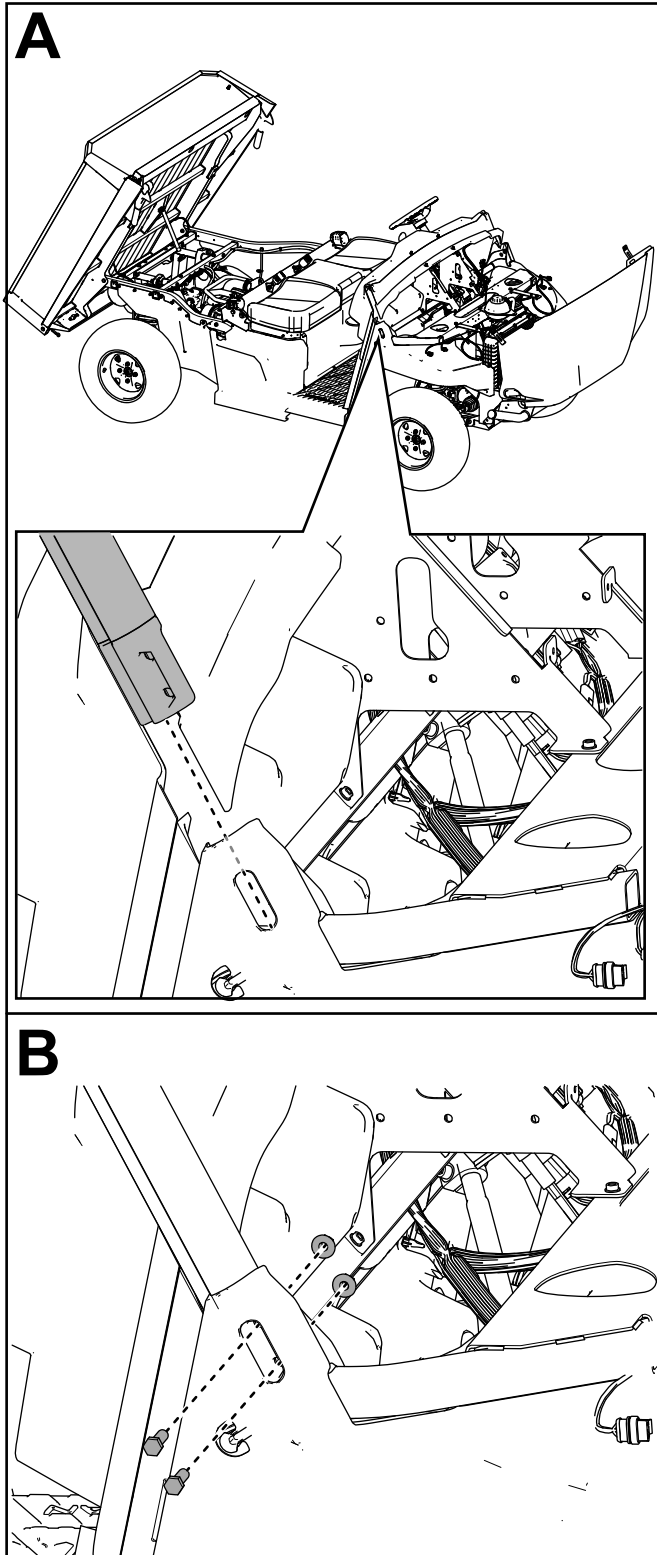

Figure 13
7. Loosely secure the right, front roll bar assembly to the right roll bar mount bracket using 2 hex-head bolts (3/8 x 1-1/4 inches) and 2 locknuts (3/8 inch) as shown in Figure 13.